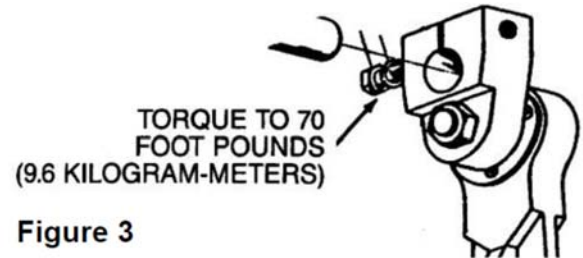

Figure 3
- c. Torque the crank lock screw (Ref No A6) to 70 foot pounds with an appropriate torque wrench. See Figure 3.